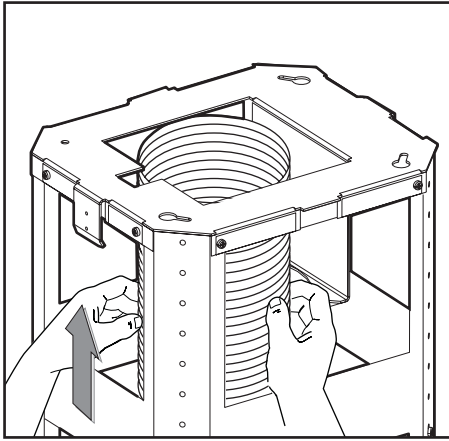

Fig.6
- Fix the flexible pipe to the prepared air evacuation hole (**Fig.6**).